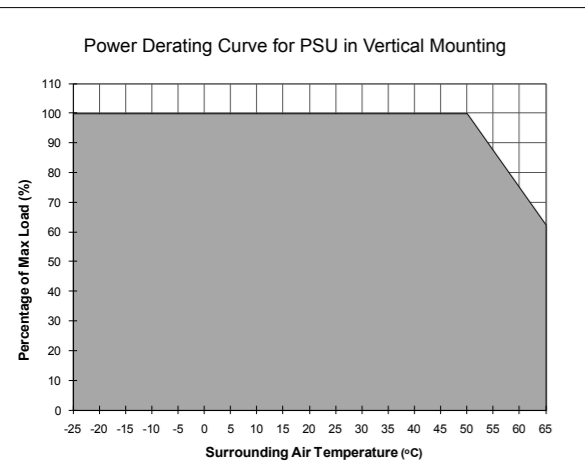

Figure 6
5.4. Thermal behavior (Fig. 6)
Operating temperature (surrounding air temperature)	-25°C to +65°C (Refer to Fig. 6)